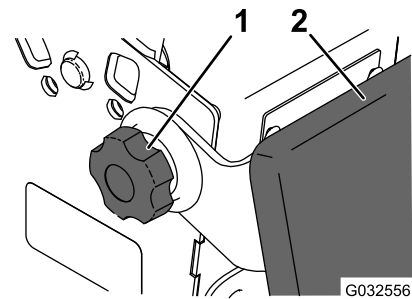

Figure 32
2. Loosen the twist knobs on each side of the machine (Figure 32).